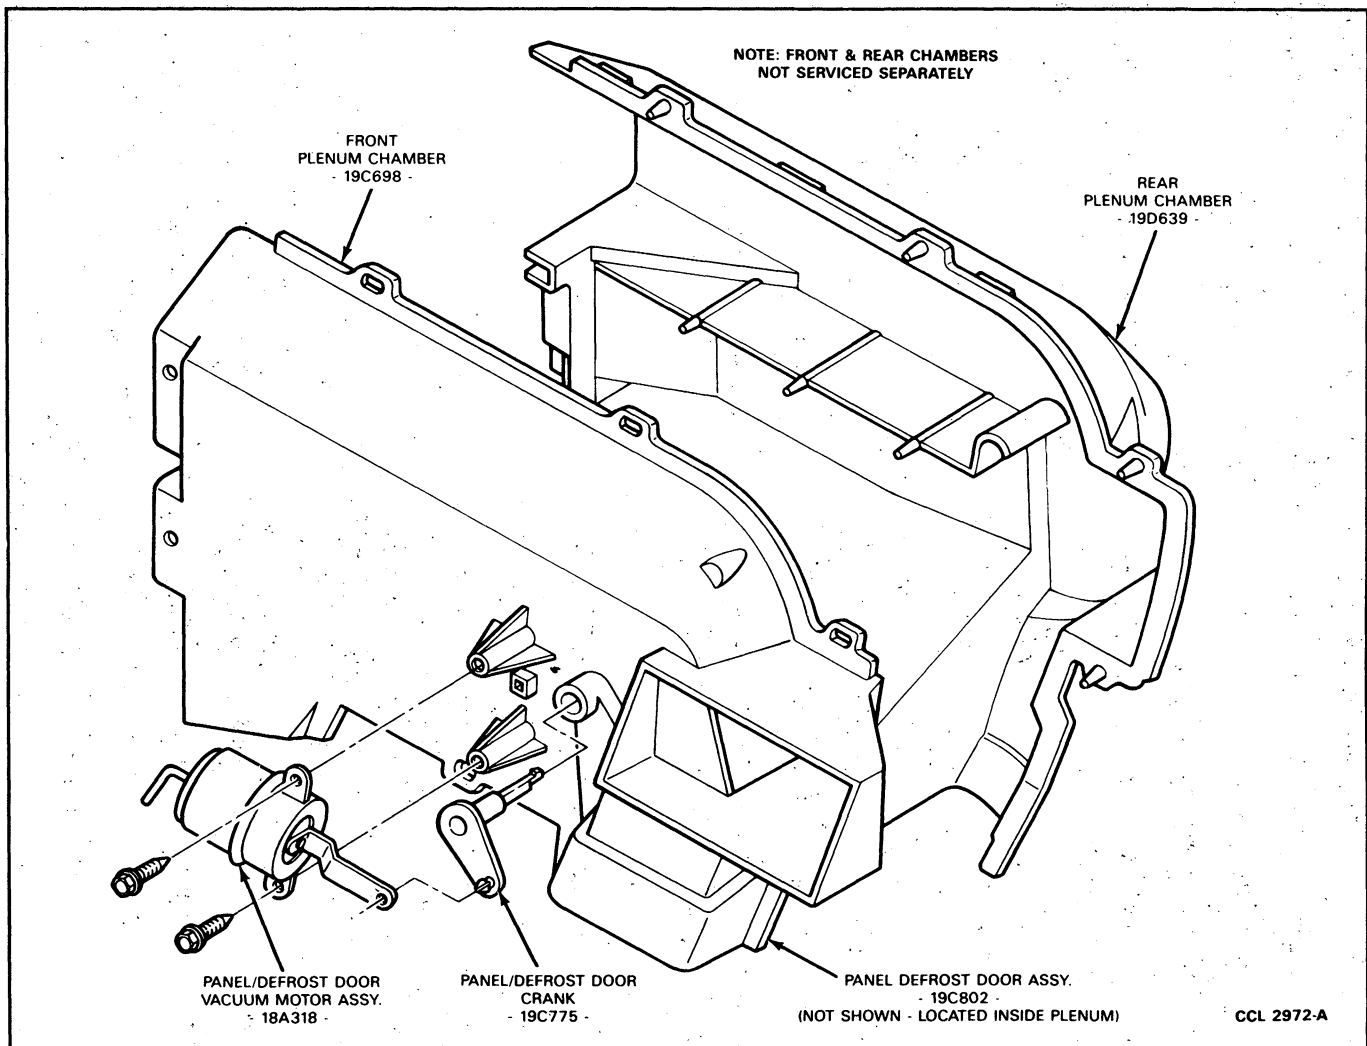

FIG. 23 Plenum Chamber
The plenum chamber is located under the instrument panel on top of the blower motor housing. For servicing the plenum-chamber, vacuum harness, and plenum doors, it is necessary to remove the instrument panel. It is not required to remove the instrument panel to service the vacuum motors attached to the plenum (Fig. 23).
1. Install heat-defrost and A/C-heat door vacuum motors on plenum (Fig. 23).